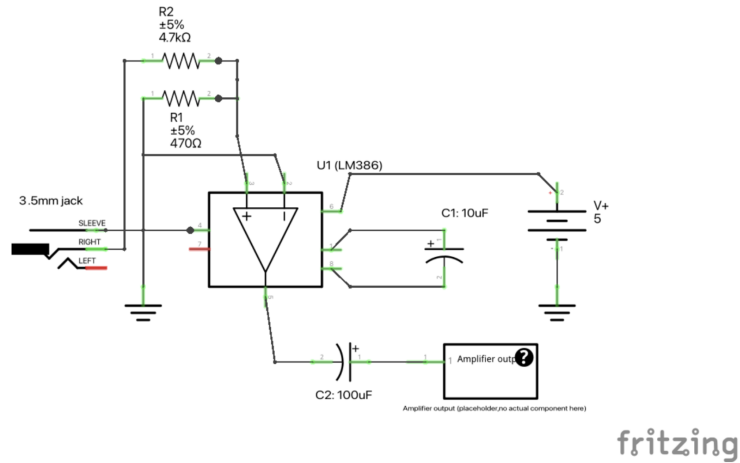

Figure 1: Audio amplifier schematic.
First, students will construct an audio amplifier circuit as pictured in Fig. 1, using a LM386 op amp. Students should use values of $C = 1\mu\text{F}$ and $4.7k\Omega$, 470Ω , $100\mu\text{F}$, $10\mu\text{F}$. Once they have constructed the circuit, students should note the output of a pure tone signal in the oscilloscope.
- (a) Use the LM386 Op Amp, the 3.5mm aux cable input, the $10\ \mu\text{F}$ Capacitor, and the $100\ \mu\text{F}$ Capacitor to construct the audio amplifier shown in Fig. 1. The power supply voltage should be $+5\text{V}$.